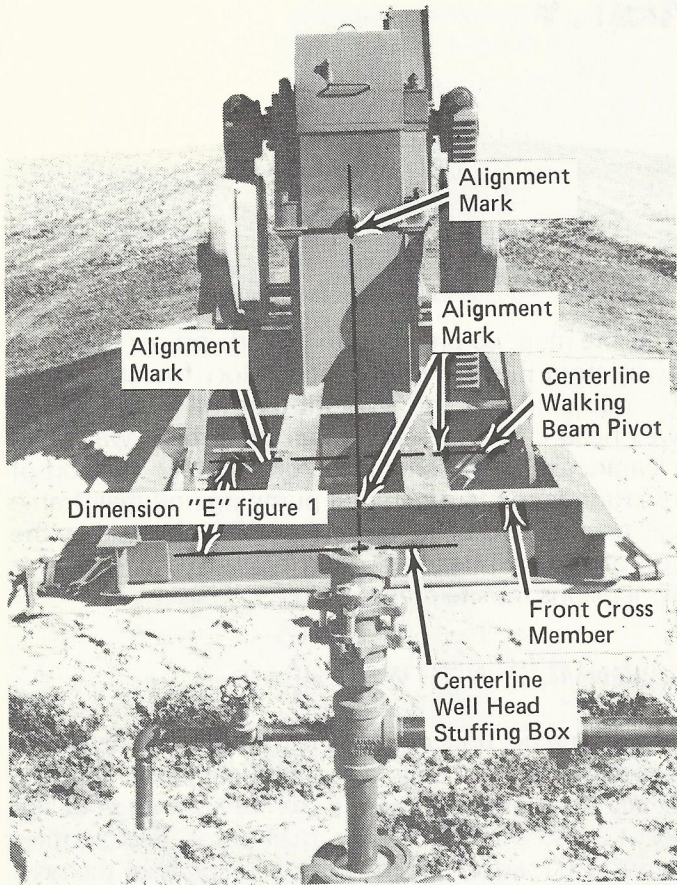

Figure 5. Alignment of Pumping Unit
The pumping unit mainframe has alignment marks which are used to align it longitudinally with the well head. An alignment mark in the forward edge of the front cross member of the mainframe and another alignment mark at the top of the end plate of the gear reducer base must align with the centerline of the well head stuffing box as shown in figure 5. Also, the mainframe has two alignment marks on the two inner
frame members (shown in figure 5) that locates the centerline of the walking beam pivot. This centerline is used to locate the distance the pumping unit is set from the well head. The top plate of the Samson post has a hole in it from which a plumb line can be dropped to obtain this location. Refer to Specifications and Dimensions, figure 1 and figure 5.
5. Hoist pumping unit into a level position on the foundation and align it with the well head, positioning unit the correct distance from well head using alignment marks and measurements shown in figure 5.